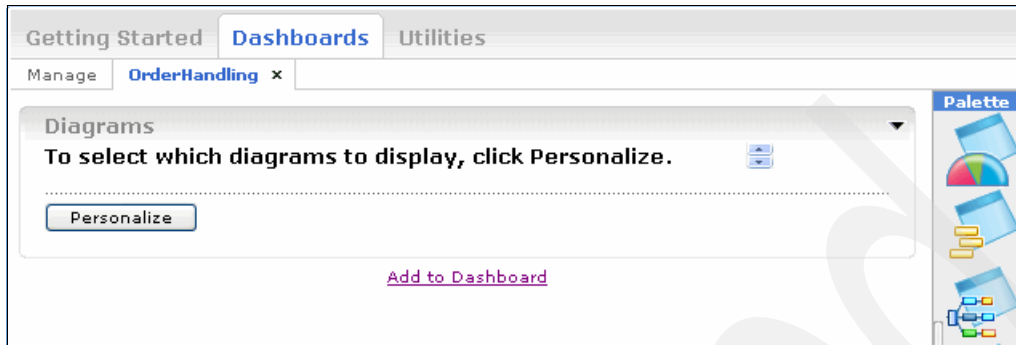

Figure 8-151 Initial Diagrams view
7. On the Diagrams page (Figure 8-151), click **Personalize** to configure the view.